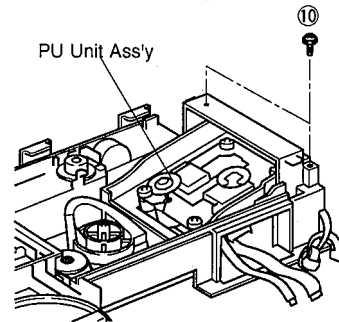

Fig. 5
- a. Remove 2 screws (⑩) and then remove the PU Unit Ass'y as shown Fig. 5.